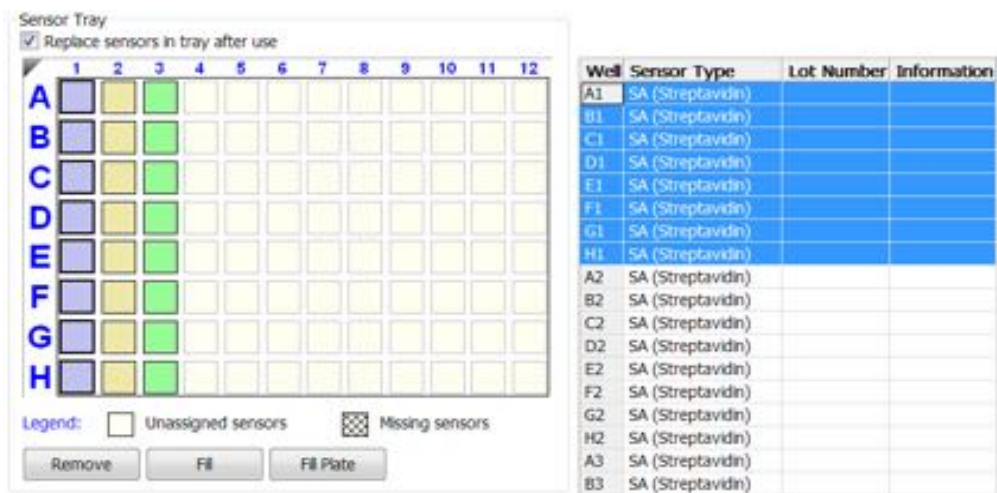

Figure 9-49: Selecting a Sensor Tray Column
1. Select the column location of the biosensor type (see Figure 9-49).